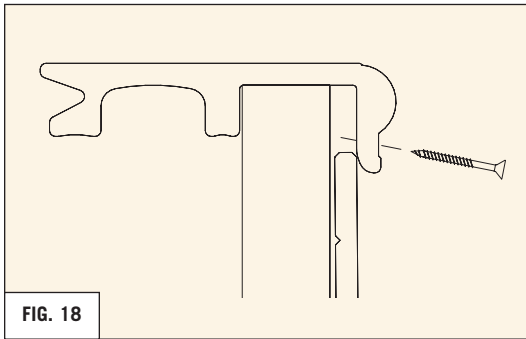

FIG. 18
- Pre-drill pilot holes every 24" into the lower lip of the bullnose. Using a rotary tool with a spiral bit, enlarge all pre-drilled holes into slots to allow for expansion and contraction, especially near the ends of the bullnose length. Pre-drill the pilot holes at a upwards angle to avoid screwing into the cladding (**REFER TO FIG 18**). Drive #8 X 2" Deck screws into the bullnose lip, tightening until the head of the screw just contacts the bullnose lip. **DO NOT OVER TIGHTEN. (REFER TO FIG 18 & 20)**